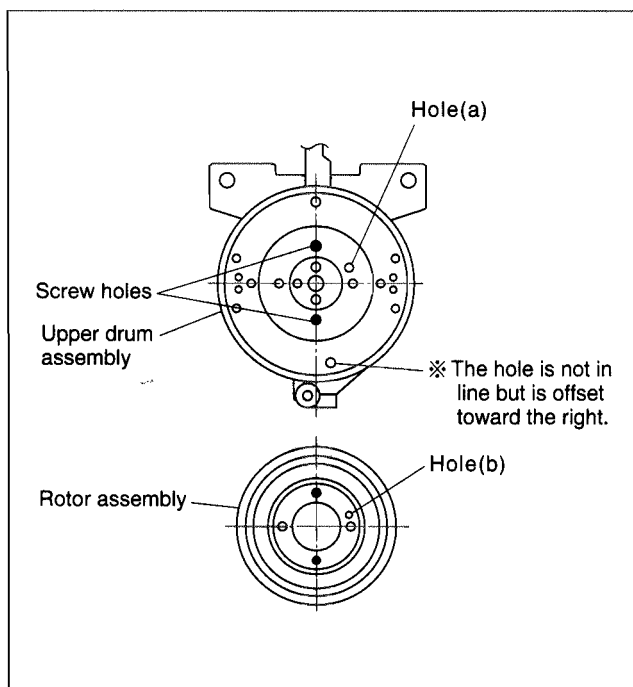

Fig. 2-2-43
- (3) Match the phases of the upper drum assembly and the rotor assembly as indicated in Fig.2-2-43.
- (4) Place the upper drum assembly hole (a) over the rotor assembly holes (b) (with three holes to be aligned) and tighten the two screws (B). (See Fig.2-2-43.)